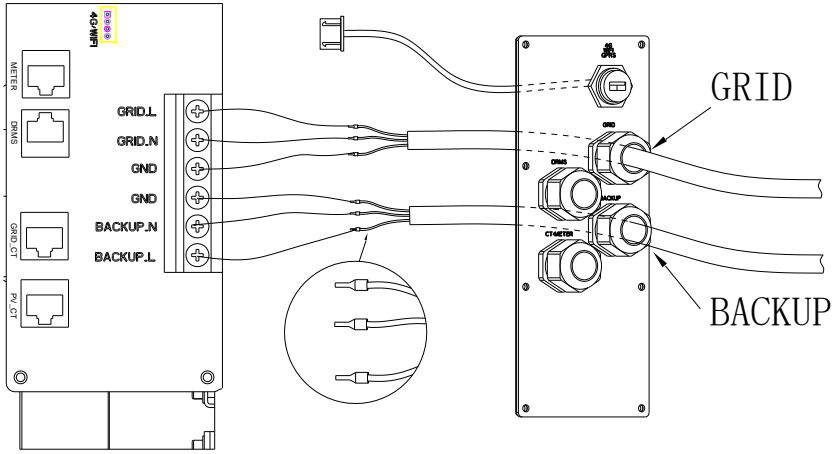

Fig.4.4 AS1 device wiring terminals
**Step 2:** After the cover plate removed, please lead one cable (Recommend conductor core size: 2.5mm2) through the waterproof nut (GRID) and then use E6012 wire crimps to connect the wires to the terminal of GRIDL, GRIDN and GND2 properly (refer to Fig.4.4);
**Step 3:** Please lead another cable (Recommend conductor core size: 2.5mm2) through the waterproof nut (BACKUP) and then use E6012 wire crimps to connect the wires to the terminal of BACKUP-L, BACKUP-N and GND1 accordingly (refer to Fig. 4.4);